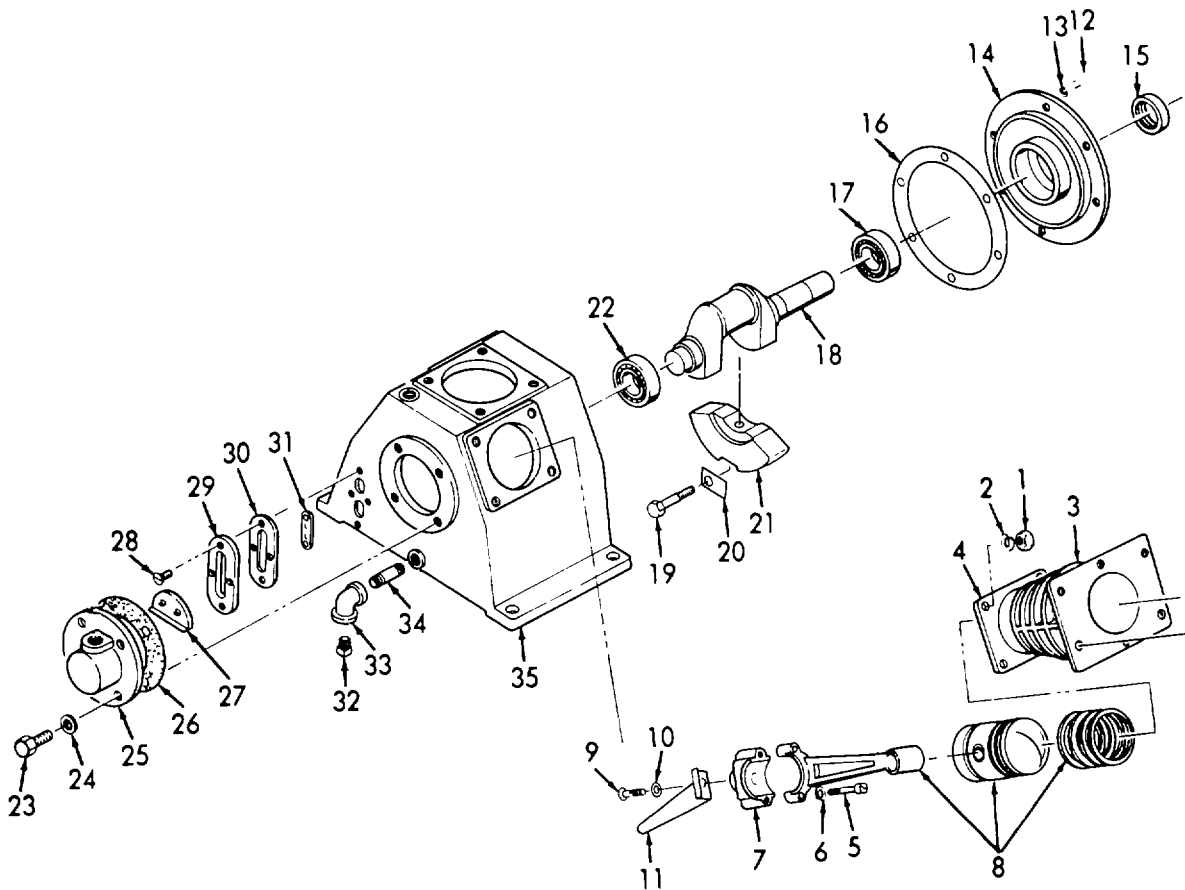

Figure 4-3. Air Compressor, Assembly.
f. Assembly. (Refer to Figure 4-3).